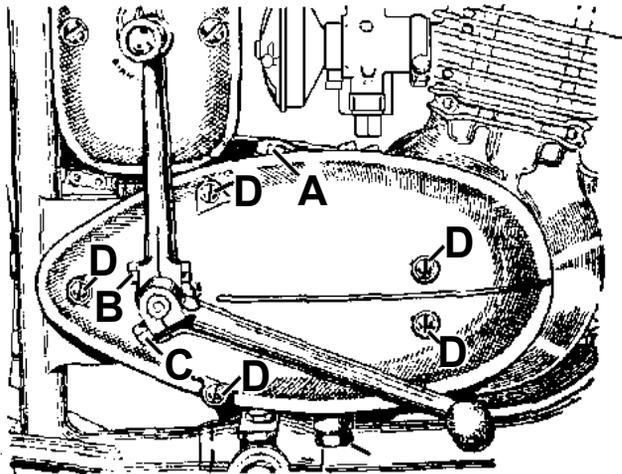

Fig. D7.
On the offside of the engine the change-speed foot pedal is splined on its shaft and held in position by a pinch bolt (C) Fig. D7. Unscrew and withdraw the pinch bolt and take off the pedal. Now take off the kickstart pedal, this also is fitted to a splined shaft and held in position by a pinch bolt (B) Fig. D7.